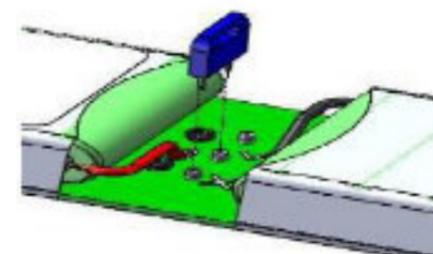

Fig. 1 - Activation link - Transit position
Move the activation link from the transit position Fig. 1 to the live position Fig. 2.
- Unscrew the knurled knob (1) above and remove the end cap.
- Remove the four pinhead screws Fig.1 (2) securing the end plate and carefully ease the plate clear of the housing.
- Check that the lens housing is fully in (arrow pointing upwards) see Fig.5, then refit the end cap and secure with the knurled knob. Fully tighten the knurled knob the slacken half a turn Fig.1 (4)
- Push the end plate upwards as far as it will go, and then fully tighten the 4 pinhead screws Fig.1 (5)